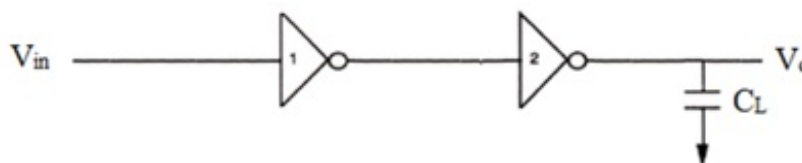

Fig. Q 4B
4B) Two inverters are cascaded to drive a capacitive load $C = 15 \square C_g$ as shown in Fig. Q 4B. (3)